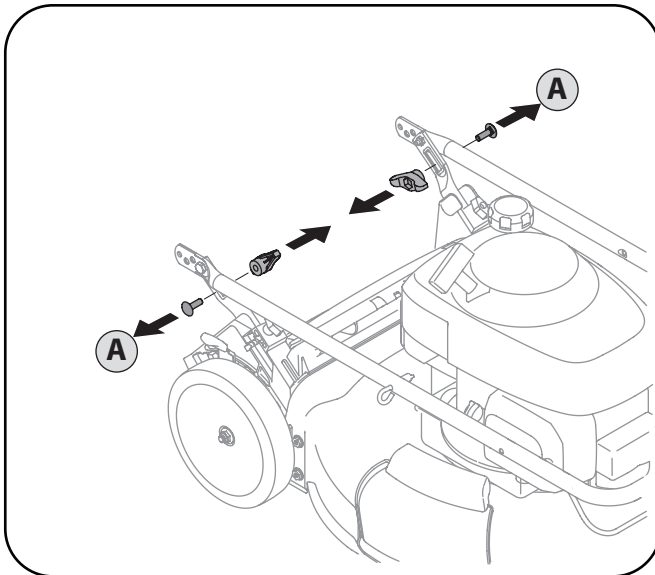

Figure 3-1
- a. Remove wing nuts and carriage bolts from handle as shown in Fig. 3-1. Do not loosen or remove adjacent hex head screws.